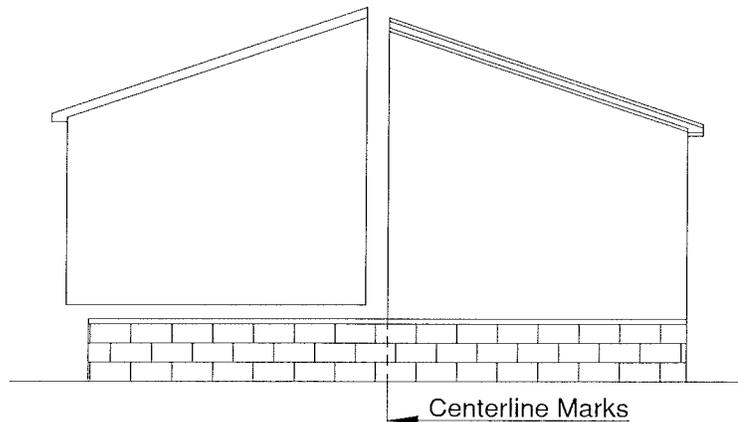

Figure 6 - Centerline Marks
7. To set the house exactly square on the foundation, place the first section to the previously marked center alignment marks (see Figure 6).